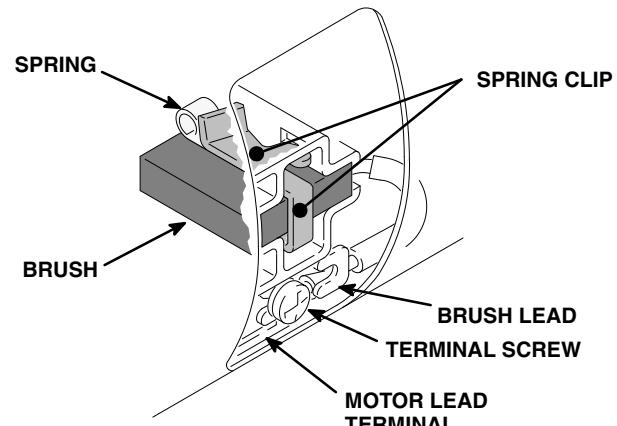

Fig 25-3
**NOTE:** Replace the brushes when they have worn to less than 1/2 in. See STEP 1, Fig 25-3. Note that the brushes wear differently on each side of the motor, so check them both. Brush Repair Kit 220-853 is available. A new spring clip, P/N 110-816 may be purchased separately.
4. Loosen the brush lead terminal screw. Pull the brush lead away, leaving the motor lead terminal in place. Remove the brush and spring. See Fig 25-3.
7. Slide the terminal under the terminal screw washer and tighten the screw. Be sure the motor lead is still connected at the screw. See Fig 25-3.